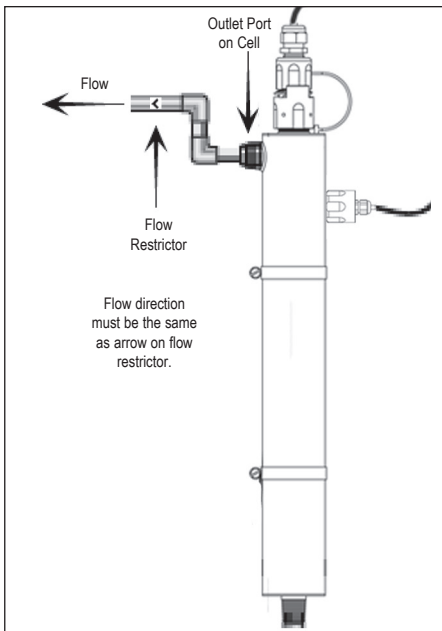

Figure 1C
3. Mount the system to the wall using the supplied clamps. Various connection methods can be used to connect the water source to the system, however union type connectors are recommended. The use of a flow restrictor device is strongly recommended when installing your system in order to maintain the manufacturers rated flow rate. The flow restrictor should be installed on the outlet port and is designed to be installed in one direction only. Ensure that the flow of the water matches the flow direction as indicated on the flow restrictor (Figure 1C). DO NOT SOLDER CONNECTIONS WHILE ATTACHED TO THE SYSTEM AS THIS COULD DAMAGE THE O-RING SEALS.